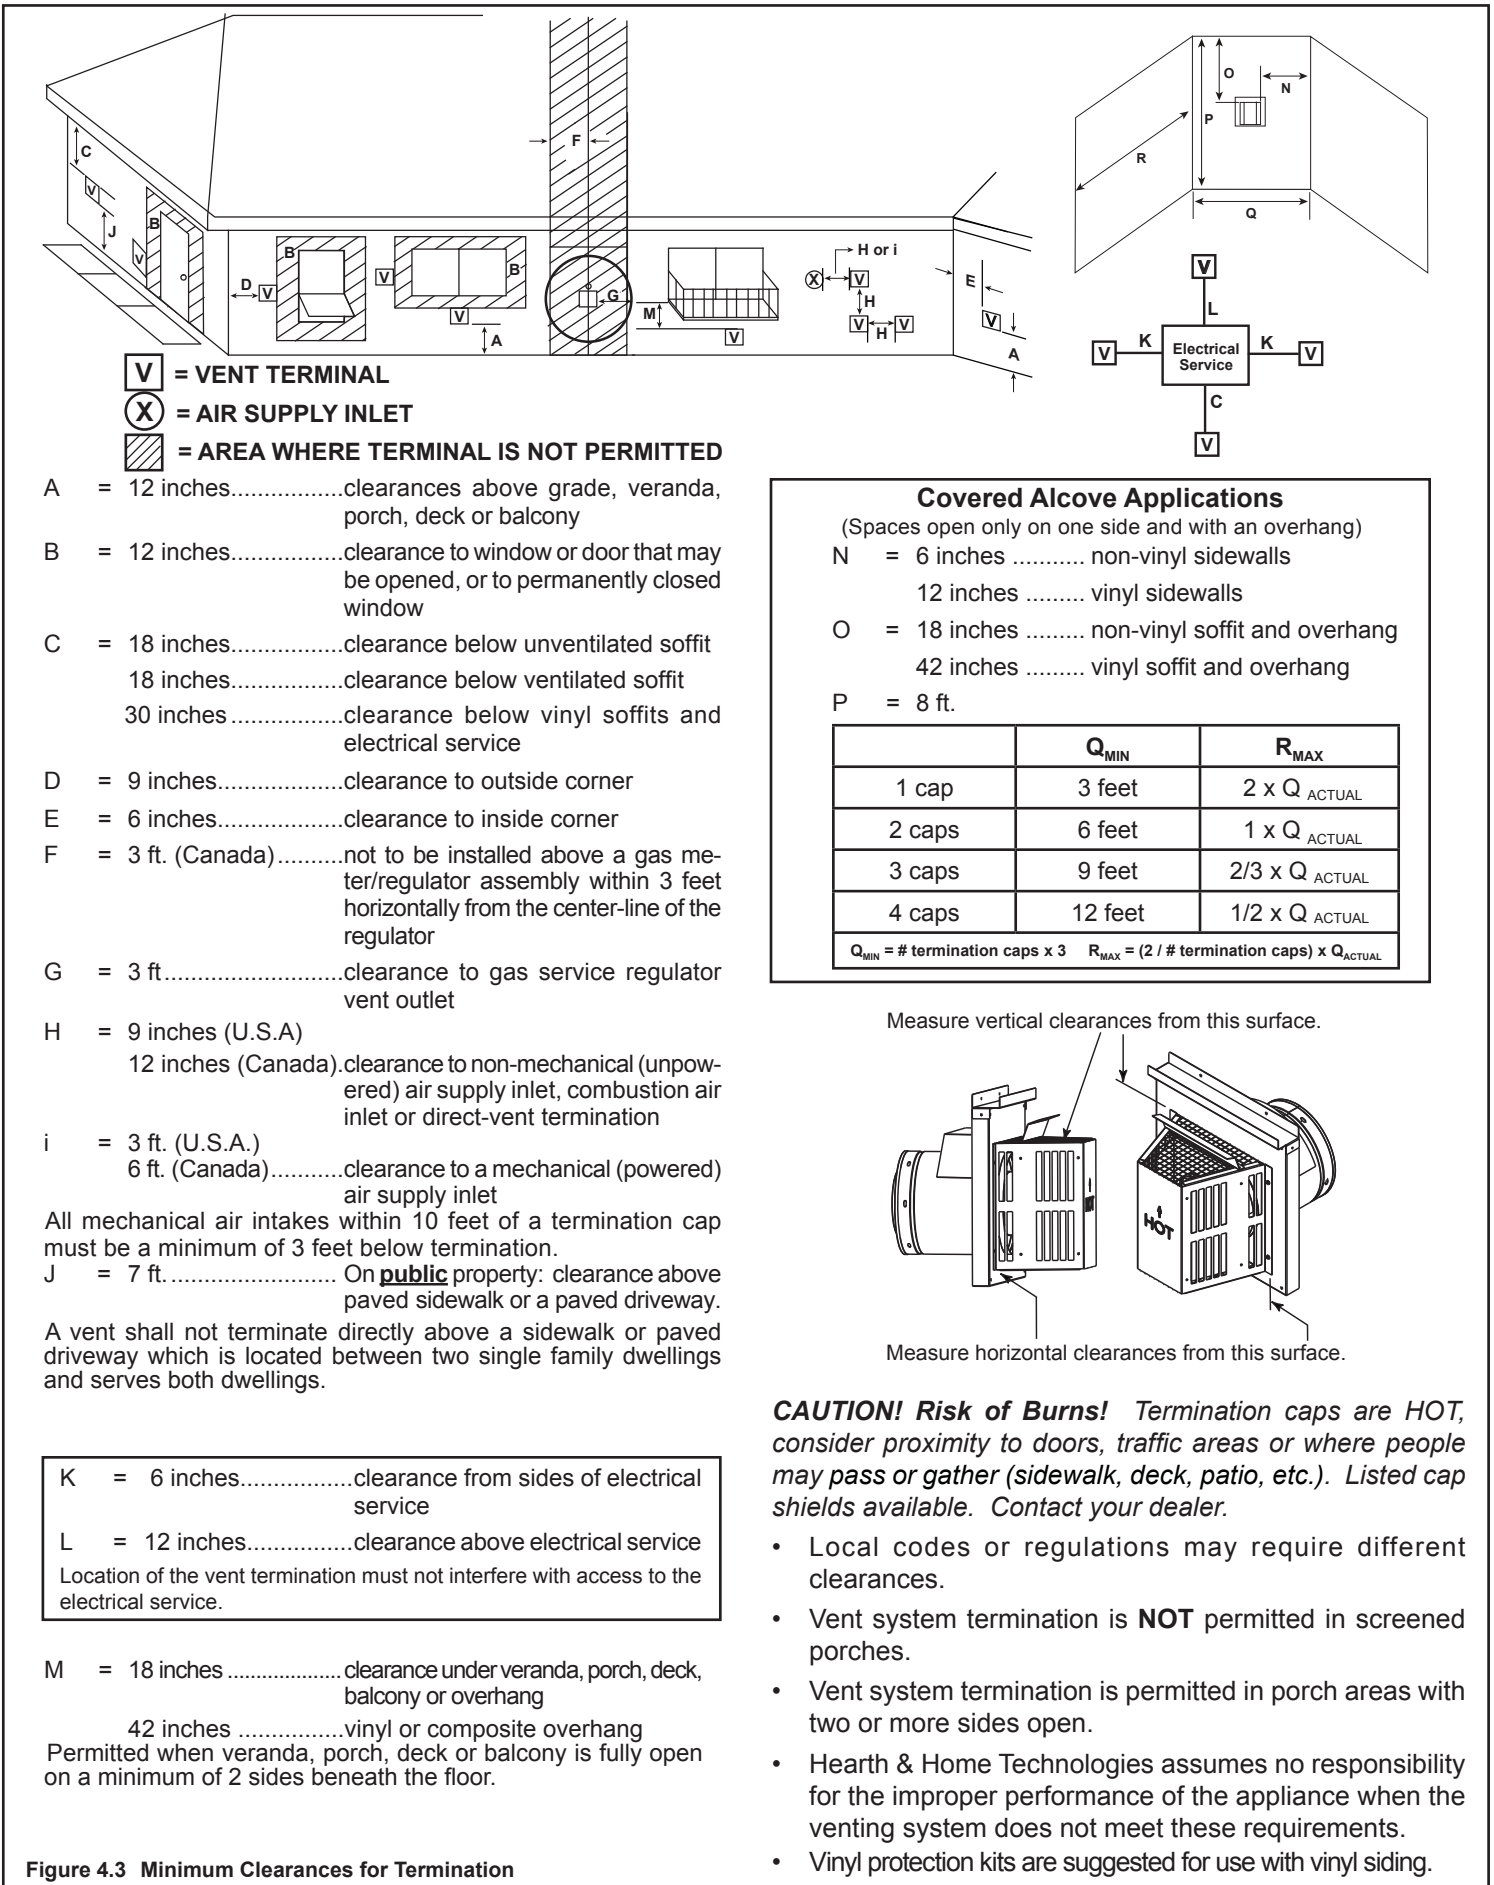

Figure 4.3 Minimum Clearances for Termination
- Horizontal terminations are measured to the outside mounting surface (flange of termination cap) (see Figure 4.3).